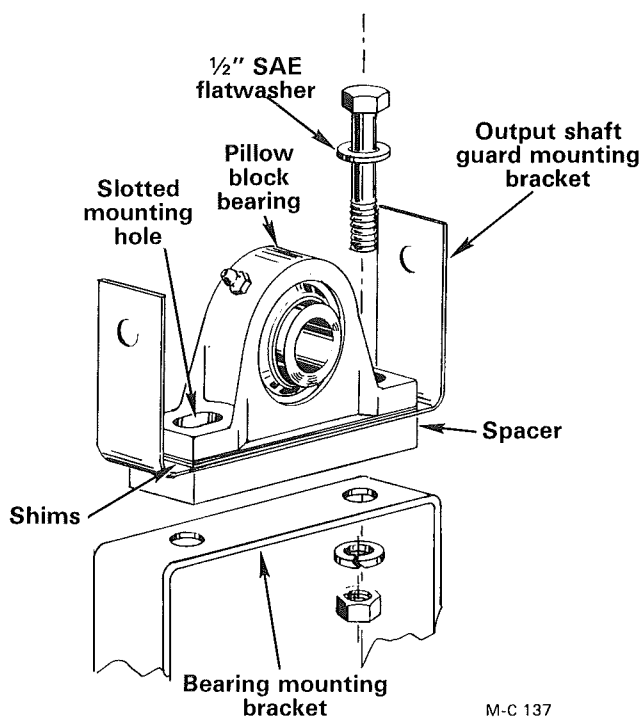

Figure 22
- D. Remove the two capscrews, lock-washers and hex-nuts securing the output shaft bearing. Lift up on the output shaft and remove the spacer, output shaft guard bracket and shims from under the output shaft bearing, see Figure 22.